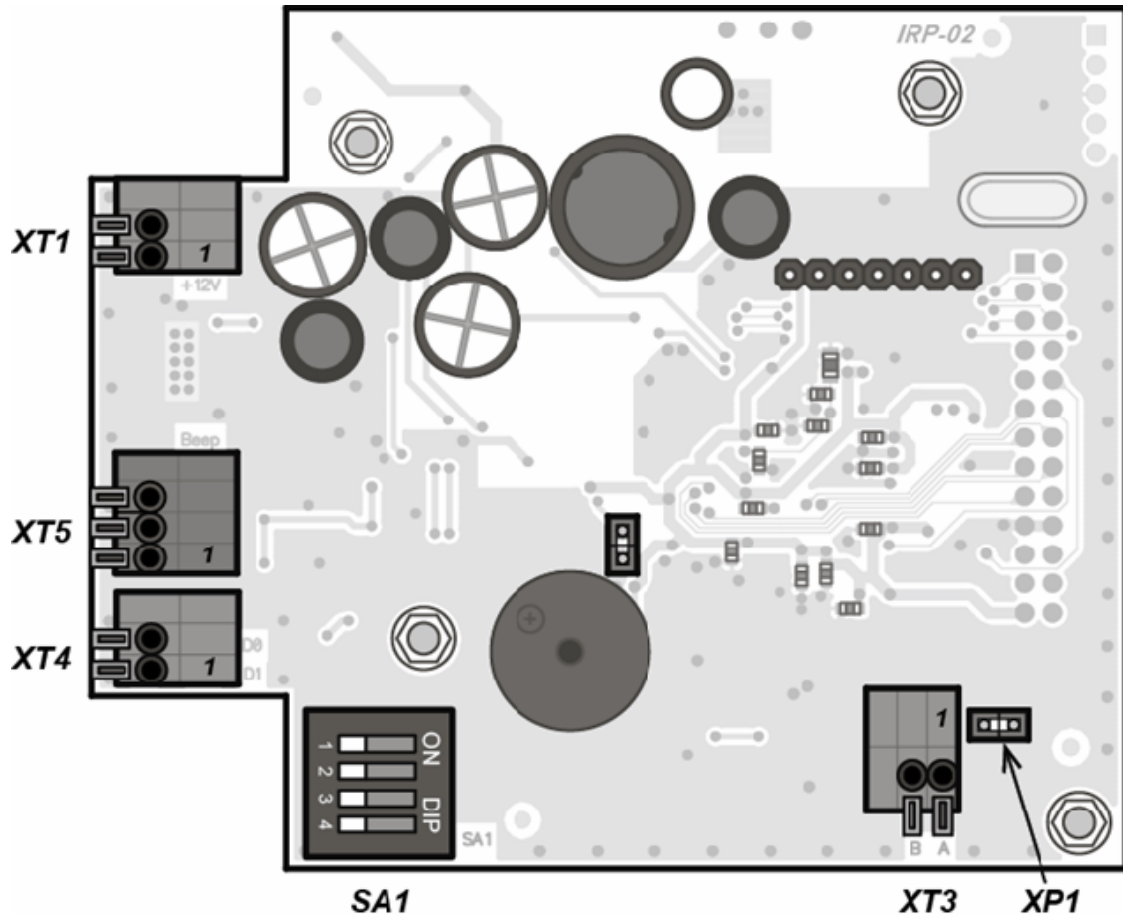
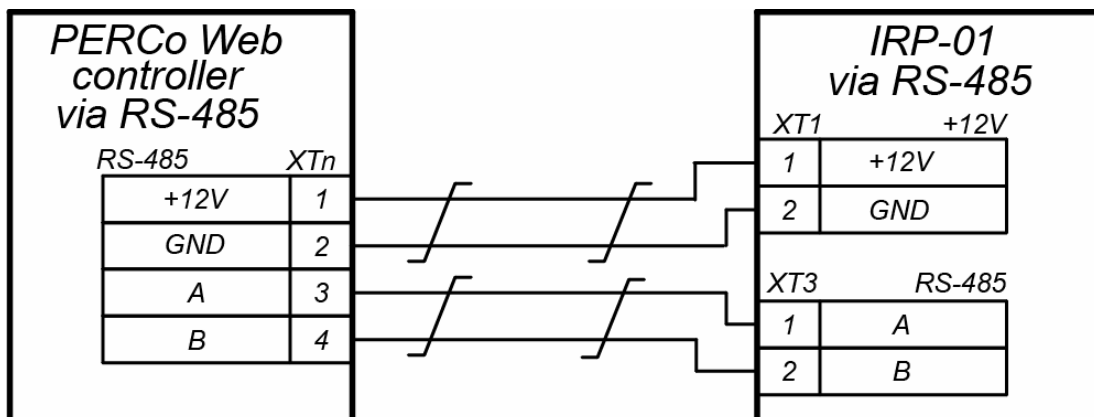
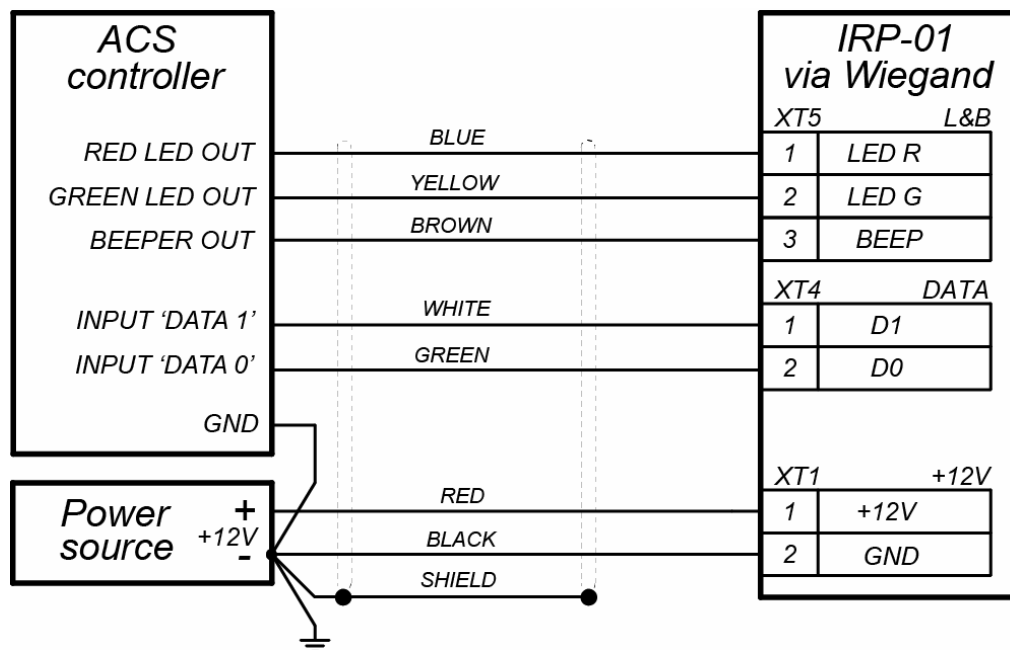

Figure 2. The board of the reader
Figure 4. Connection layout for RS-485 interface of PERCo-Web controller
Figure 5. Connection layout for Wiegand interface of ACS
The board of the reader is shown on Fig. 2.
The interface of the reader is chosen with the use of switch #4 of DIP-switch **SA1**, located on the board of the reader (see Fig. 2):
To operate the reader in *RS-485* mode the switch #4 of DIP-switch **SA1**, located on the board of the reader (see Fig. 2), shall be set in **ON** position. When the reader is connected via *RS-485* interface, it can be used as an external reader for **PERCo-Web** controllers.
The number is selected with the use of switches #1, #2, #3 of DIP-switch **SA1**, located on the board of controller (see Fig. 2), in such case switch #4 shall be set in **ON** position. Number of reader is determined according to Table 1.
To operate the reader in *Wiegand* mode the switch #4 of DIP-switch **SA1**, located on the board of the reader (see Fig. 2), shall be set in *OFF* position. If the reader is connected to *Wiegand* interface, it can be used an external reader for ACS controllers.
During the operation of ACS controller’s LCD shows the same indication as depicted in Section 5.1.2. There are two possible options to control indication: «single line» and «double line». The option is selected with the use of switch #3 of DIP-switch **SA1**, located on the board of the reader (see Fig. 2), in such case switch #4 shall be set in *OFF* position. Indication control option is determined according to Table 2.
Control signals in case of «single line» mode are transmitted via the line that is connected to *Led R* contact (see Fig. 5) of **XT5** connector on the reader board (see Fig. 2). In case of «double line» mode control signals are transmitted via two lines connected to *Led R*, *Led G* contacts of **XT5** connector on the reader board. To control sound indication of the reader with ACS controller it is necessary to connect the wire that is connected to *Beep* contact of **XT5** connector with the negative terminal of power supply unit. Indication of reader is given in 3 according to control signals received by the reader.
Wiegand output data format is selected with the use of switches #1 and #2 of DIP-switch **SA1**, located on the board of the reader (see Fig. 2), in such case switch #4 shall be set in *OFF* position. *Wiegand* format of the reader is determined according to Table 4.
12. Lay the cable inside the reader post, fix it and connect it to the board of the reader according to connection layouts shown on Fig. 4 or Fig. 5.